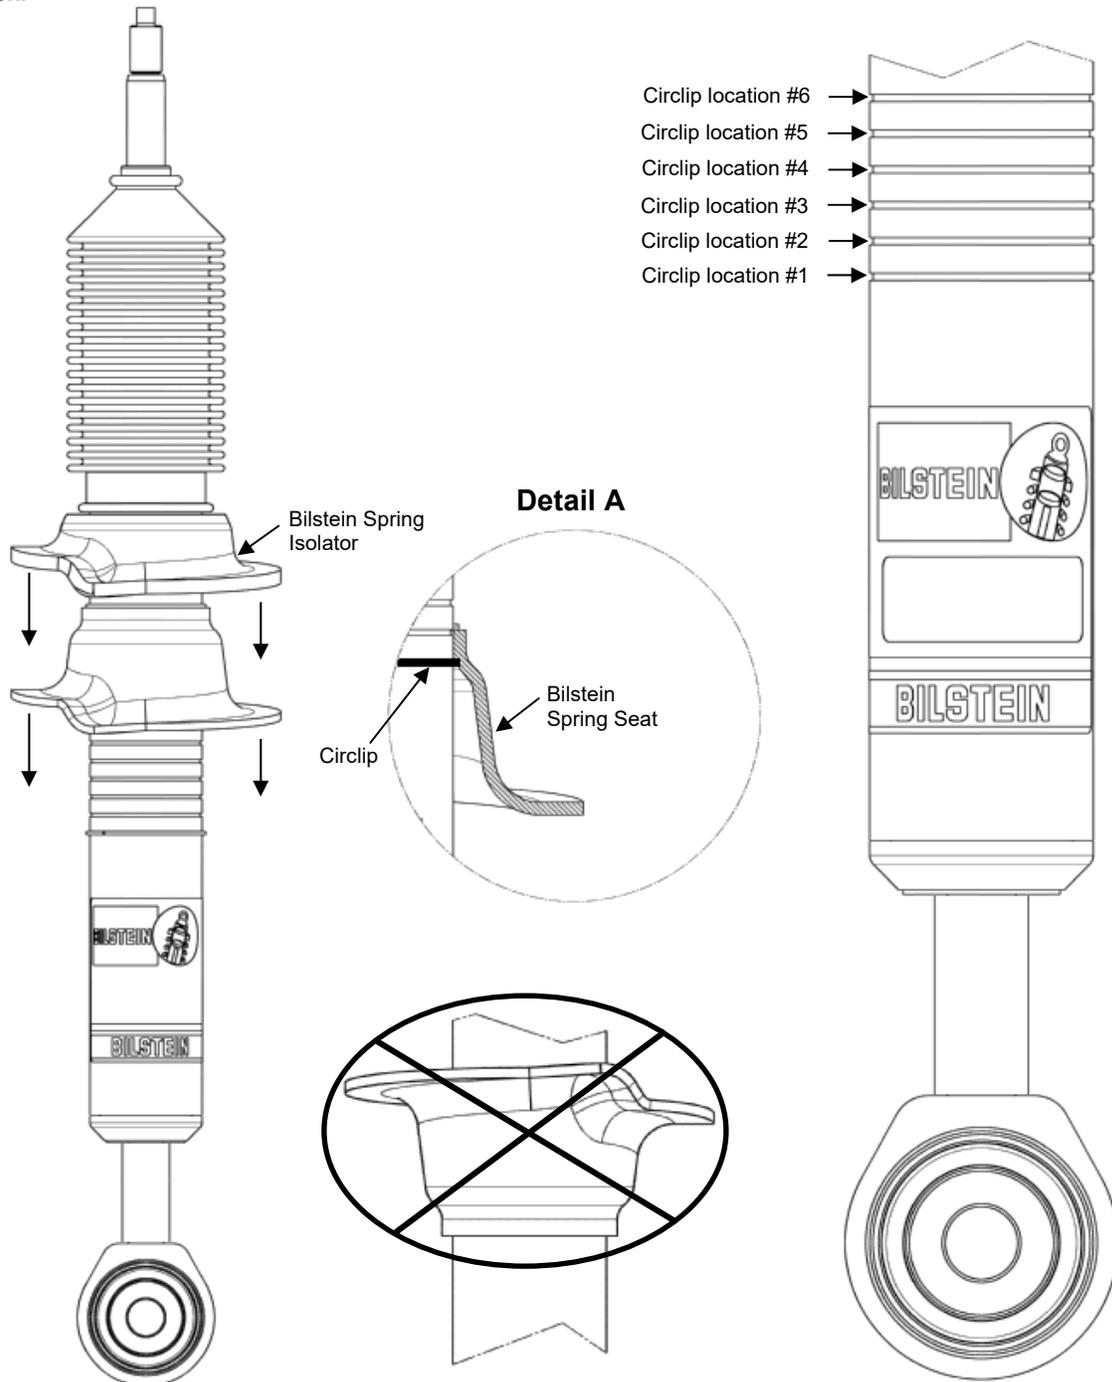

Figure 2 (B8 5100 is depicted)
**[Refer to Figure 2 on page 3 for steps E-G]**